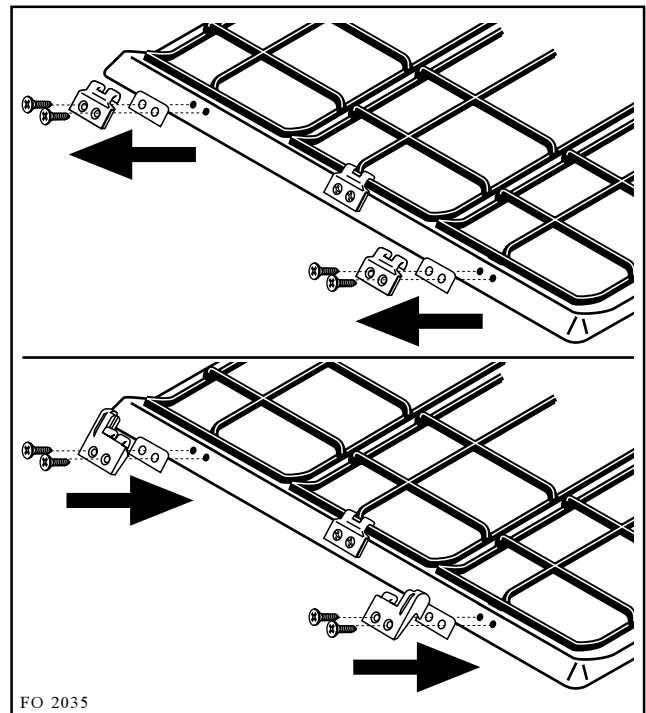

Fig. 11
- Remove the right and left hand grid blocks fitted to the back of the hob, by unscrewing the relevant screws (fig. 11)